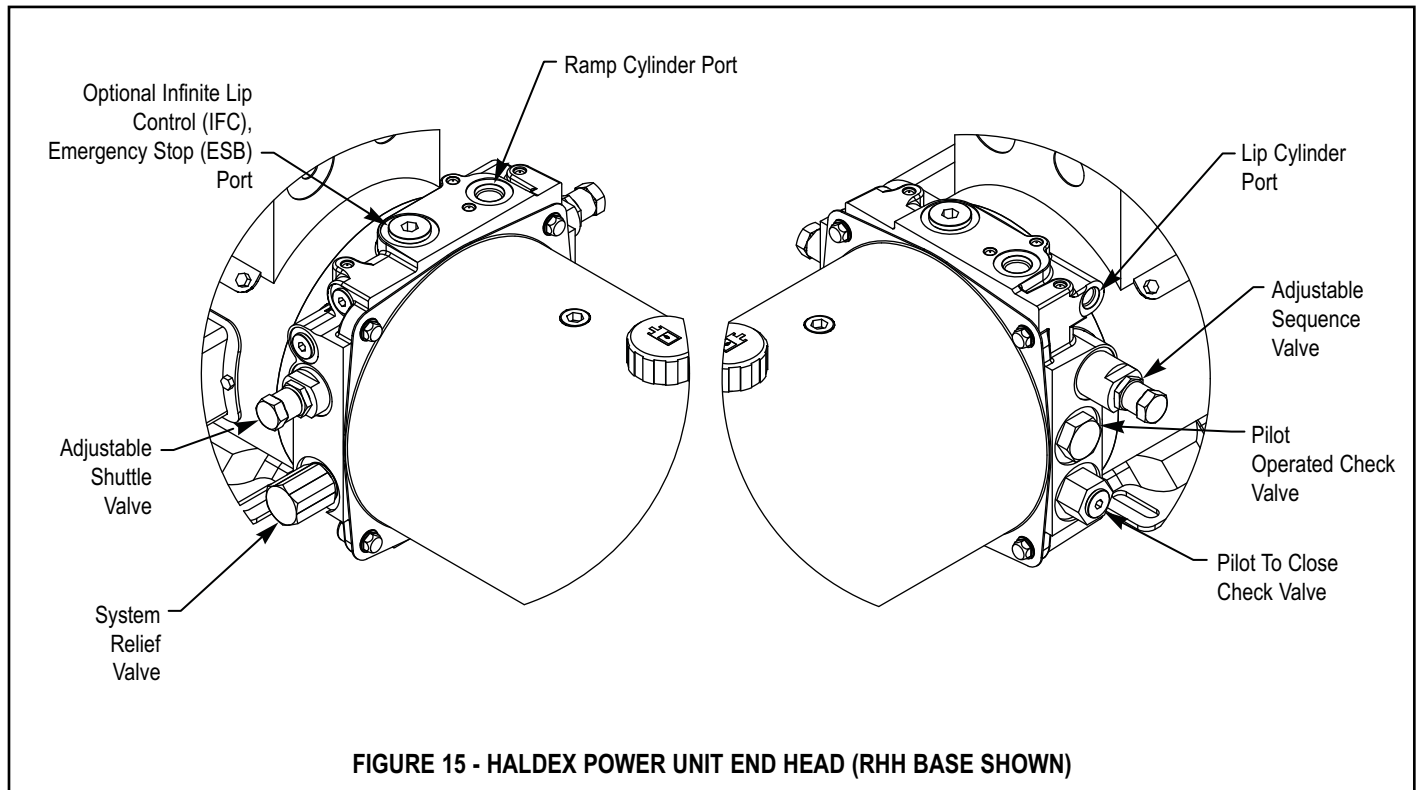

FIGURE 15 - HALDEX POWER UNIT END HEAD (RHH BASE SHOWN)
2. Remove protective cap and O-ring. Loosen locknut without turning valve body or adjustment screw. Turn adjustment screw counterclockwise to lower the valve pressure setting. See Figure 15.